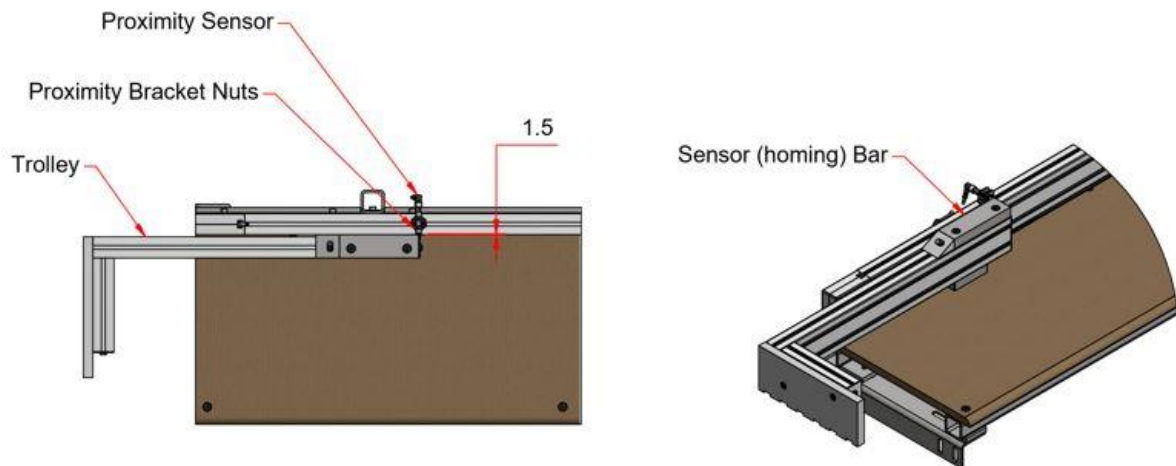

Figure 19, Rapid Stop proximity sensor configuration
- Position the proximity sensor to the rear of the sensor bar as shown in Figure 19.